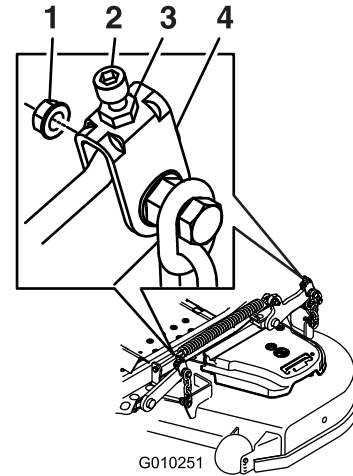

Figure 87
- 10. If needed, loosen the whizlock nut on the side of the yoke and the jam nut on top. Fine tune the screw adjuster by turning it to get 7.6 mm (3 inch) height (see Figure 87).
16. Fine tune the screw adjuster by turning it to get 8.3 mm (3-1/4 inches) height (Figure 87).